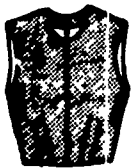

Fig. 1
**WAIST** - garment or part of garment covering the body from the shoulder to waistline. Usually called blouse or bodice (Fig. 1).